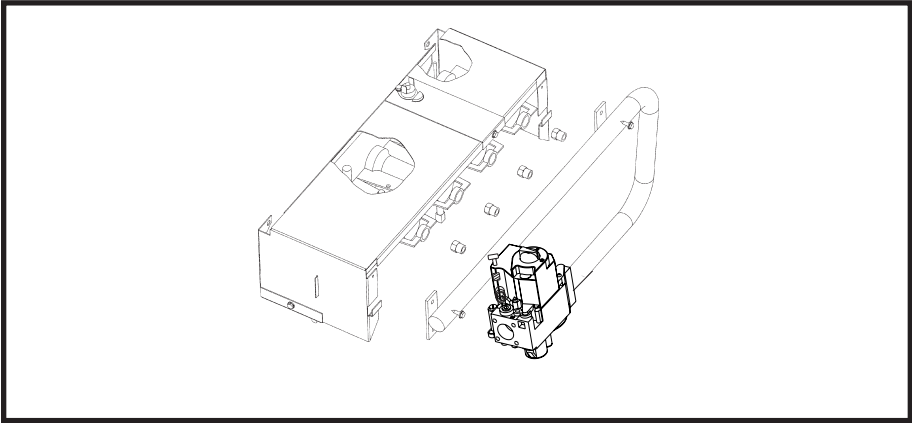

Figure 1. Typical Non-Sealed Burner Box
- Remove the fasteners that secure the gas manifold to the burner box, as shown in Figures 1 and 2. Carefully remove the gas manifold assembly from the burner box. **NOTE:** The gas manifold assembly consists of the gas valve, the gas manifold, and the orifices.
- Carefully remove the burner orifices from the gas manifold, as shown in Figures 1 and 2.